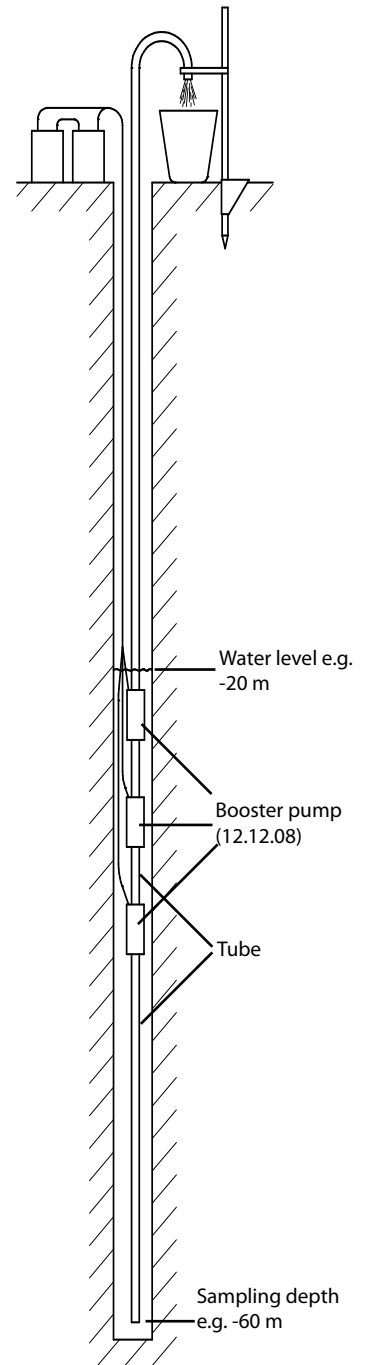

Figure 2
- ❑ Avoid using the pump very deep under the water table (high pressures will cause water to enter the motor-housing). If you would like to sample very deep under the groundwater level you should replace the lowest (Gigant) pump by a Booster pump with a very long tube attached (see figure 2).